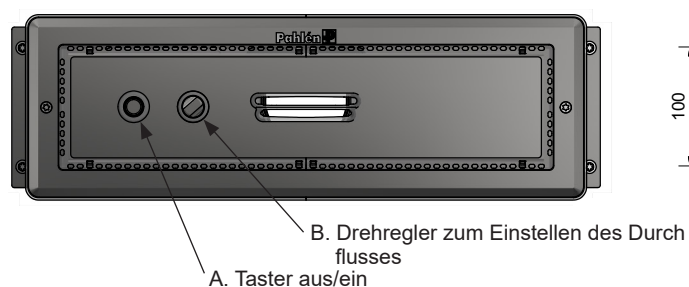

Bild 3: Jet Swim Athlete. Ansicht von vorne.
1. Start by pressing the start button (A) in the front, see Figure 3.
2. The jet can be adjusted by turning knob (B), see Figure 3. The range between max and min is about 2½ turns. We recommend turning off the jet before turning the knob.